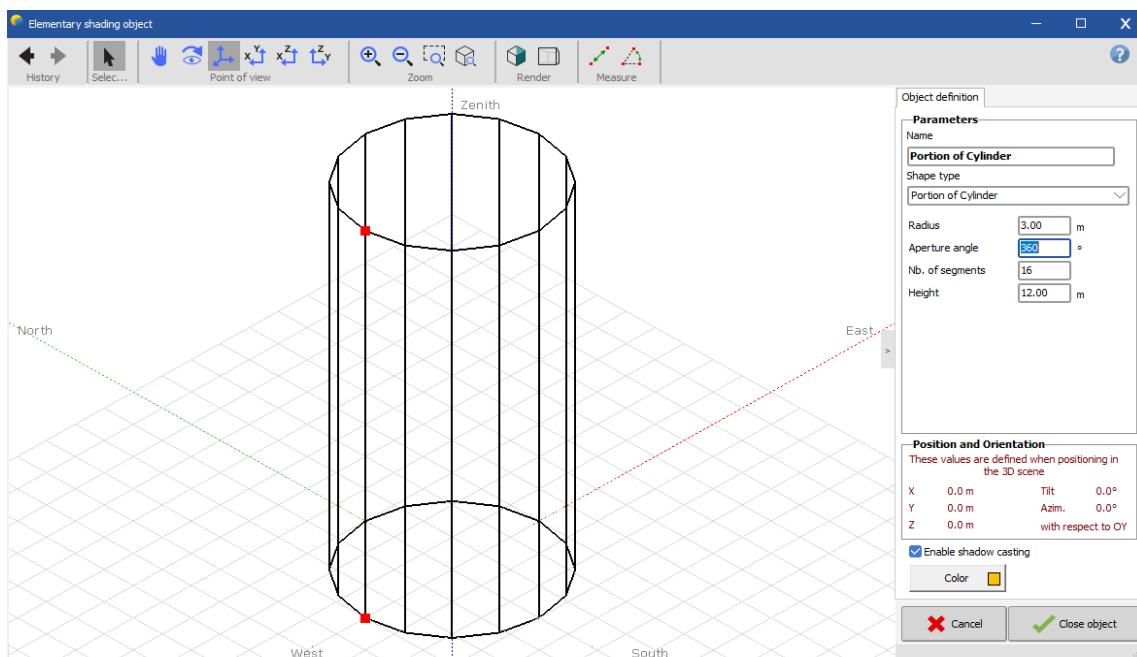

Figure 24: Defining the cylinder.
- In the shading scene construction, select "Create" / "Elementary shading object". Then select "Portion of cylinder" under shape type. According to the drawing, define Radius = 3m, Aperture angle = 360°, Nb of segments = 16, Height = 12m, see Figure 24. Click "Close Object".